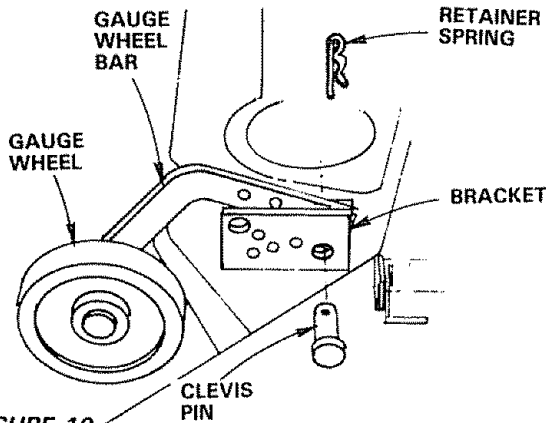

FIGURE 10
- Insert gauge wheel bar into bracket. Retain with clevis pin and retainer spring (shown full size on page 6) found in the bag of parts (Fig 10). Repeat for other gauge wheel